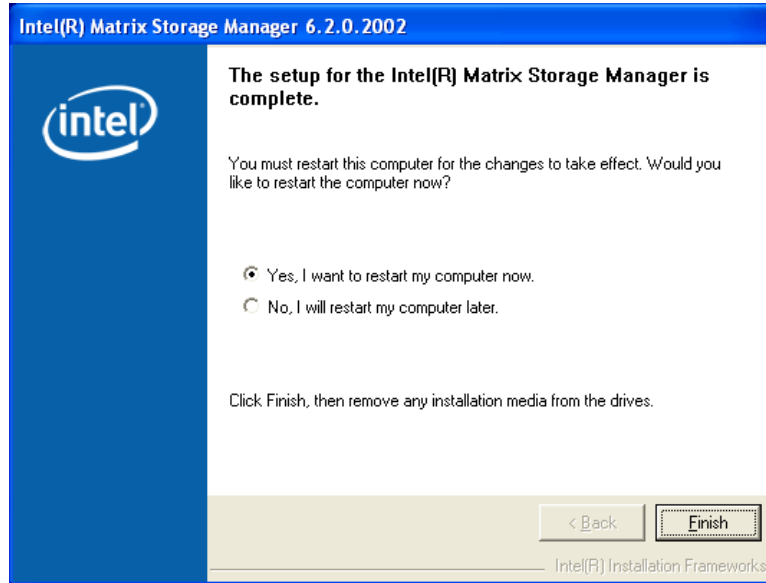

Figure 6-34: Matrix Storage Manager Setup Complete
Step 13: After the driver installation process is complete, a confirmation screen appears (Figure 6-34).